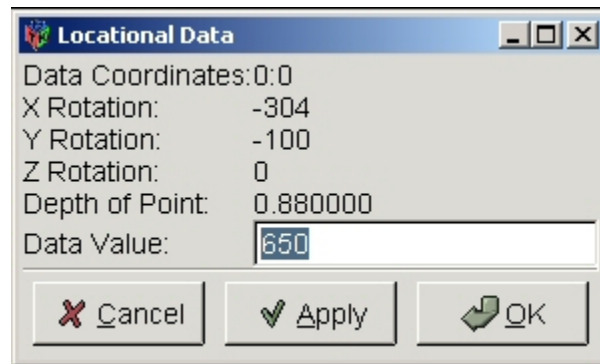

Figure 3.6
**Show Data Under Crosshairs** – This function is done by moving the cross hairs over a desired point and then when selected it will show the following data as in Figure 3.6: